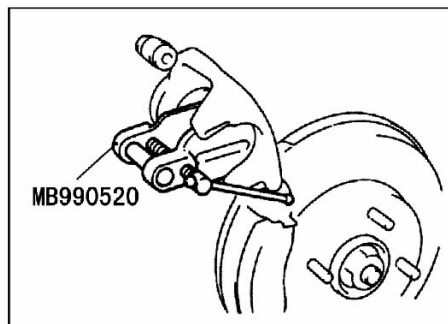

Fig. 16-34
- ③ Clean the piston and insert it into the cylinder with the special tool.(see Fig.16-34)。